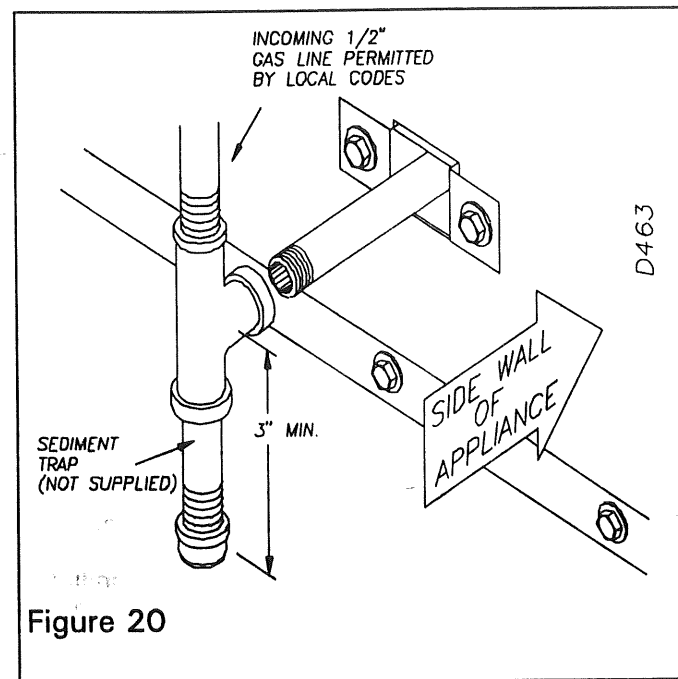

Figure 20
1) Install a sediment trap between the incoming gas line and the gas control valve (see Figure 20). The sediment trap should extend down a minimum of 3 inches beyond the center of the pipe.